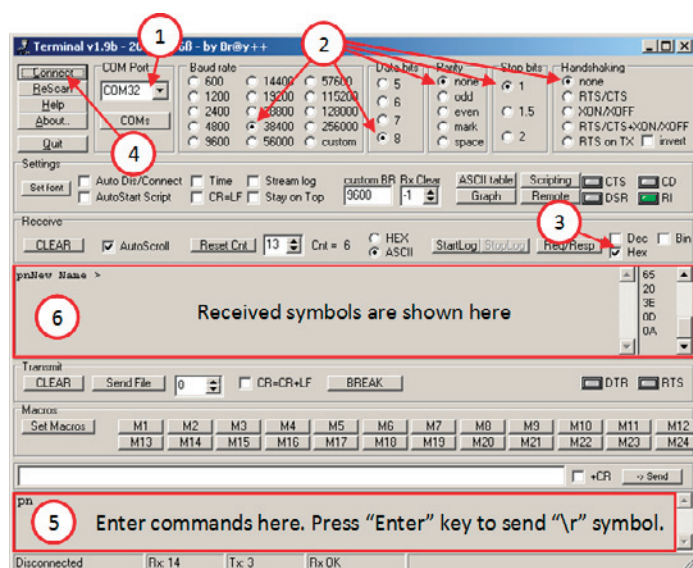

Figure 18. "terminal.exe" window with "Show Name" command sent.
6. MoTex response is shown in middle pane. Hex representation of all received bytes are shown on the right. MoTex name is set to "New Name", as shown in fig. 18.